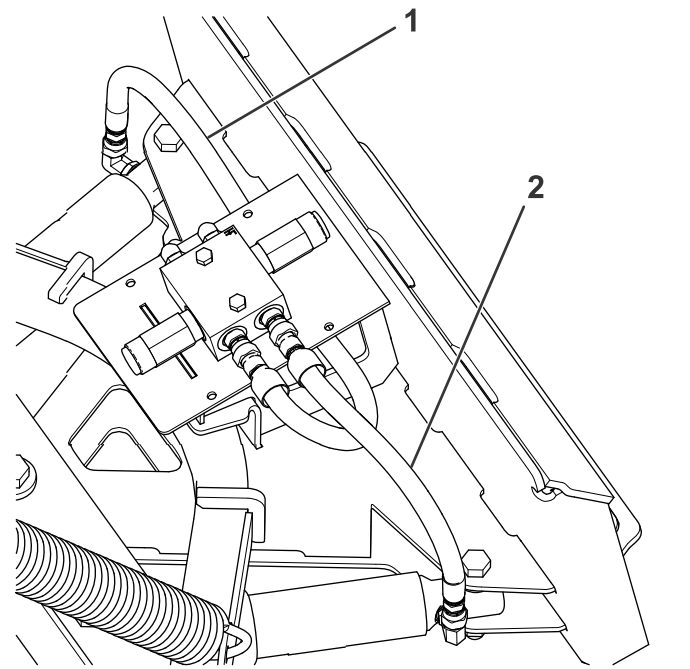

Figure 7
5. Install the female end of the medium hose to the 90° fitting on the right angle-cylinder (Figure 7). Turn the fitting until it is finger tight, then turn it 2 to 3 more times.
6. Install the male end of the medium hose to the front-left fitting on the hydraulic block (Figure 7).
7. Install the female end of the short hose to the 90° fitting on the left angle-cylinder (Figure 7). Turn the fitting until it is finger tight, then turn it 2 to 3 more times.
8. Install the male end of the short hose to the back-left fitting on the hydraulic block (Figure 7).